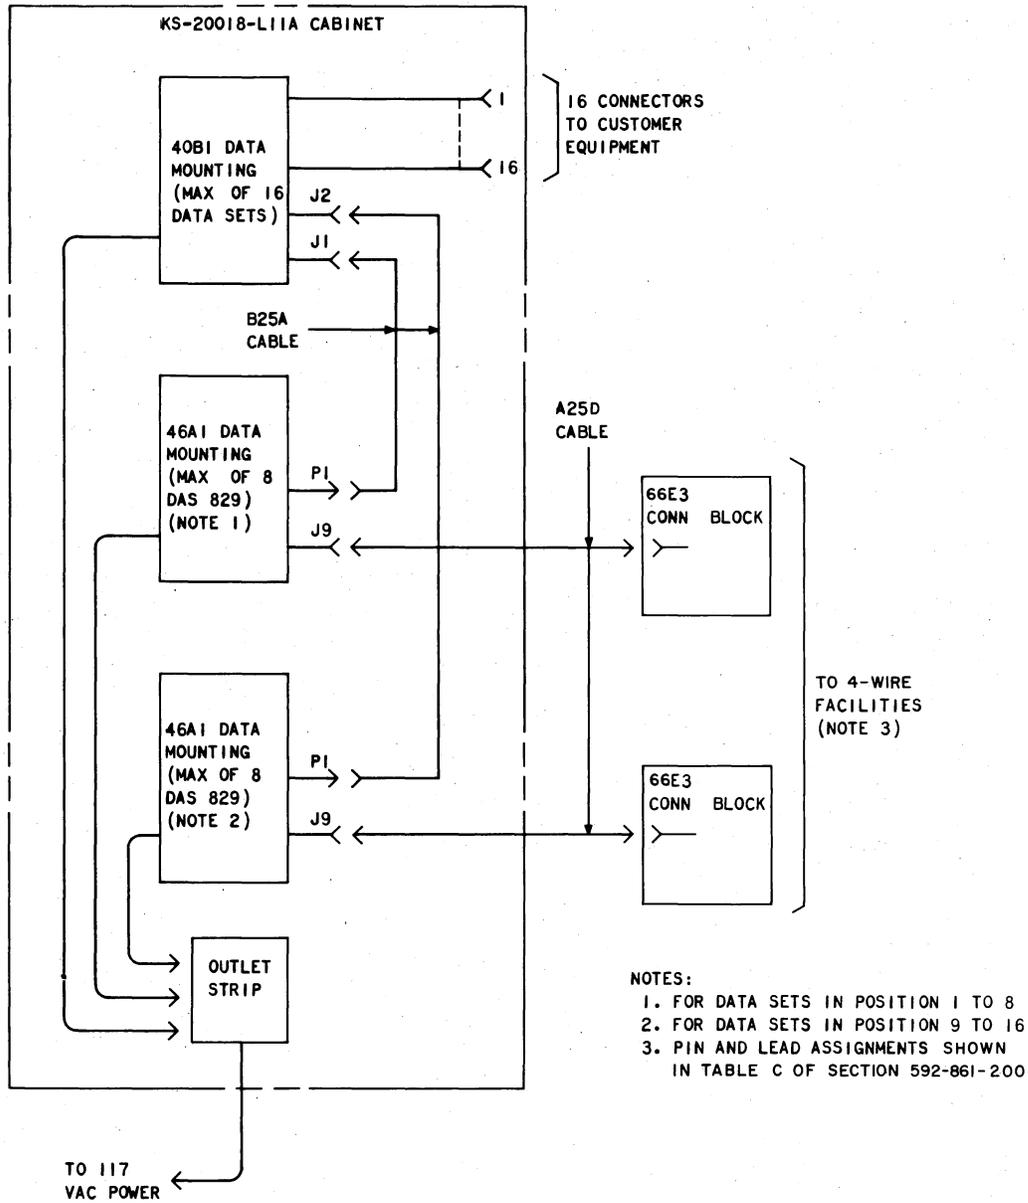

Fig. 7—Data Station Using DAS 829-Type
4.03 Refer to Fig. 7 for a connecting diagram of the data station used with DAS 829-type. Table C provides pin and lead assignments for the cables shown in Fig. 7.